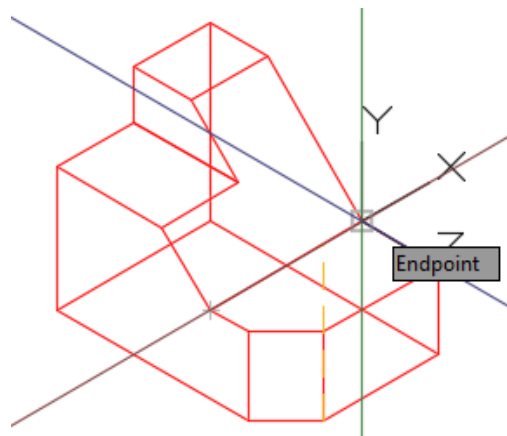

Figure Step 9
Step 9 For the second point, select end of the inclined line on the right side of the model. This is the positive X axis. (Figure Step 9)